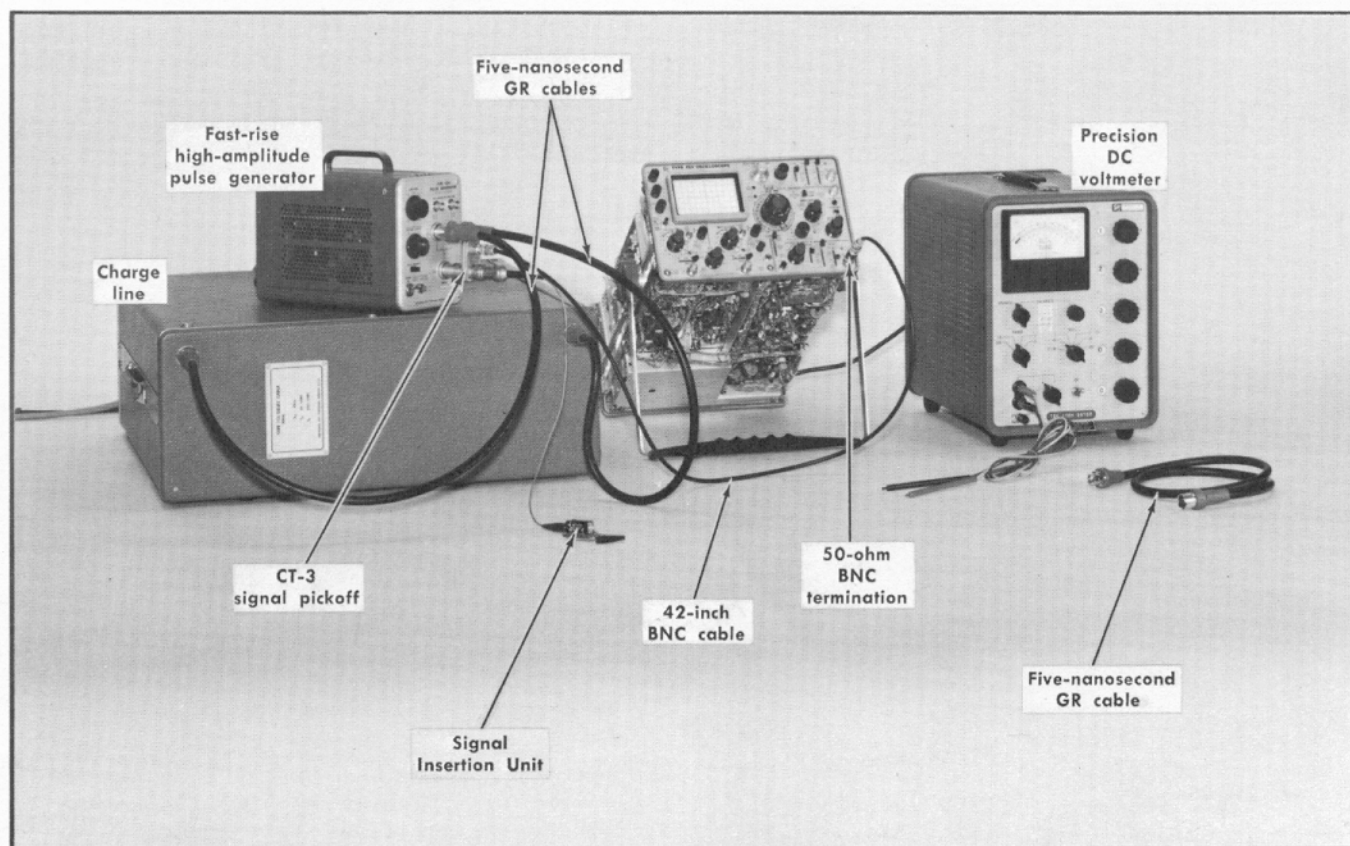

Fig. 6-25. Initial test equipment for steps 27 through 29.
①
a. Test equipment setup is shown in Fig. 6-25. (Note: The following procedure gives a different setup which supersedes that shown in Fig. 6-25.)